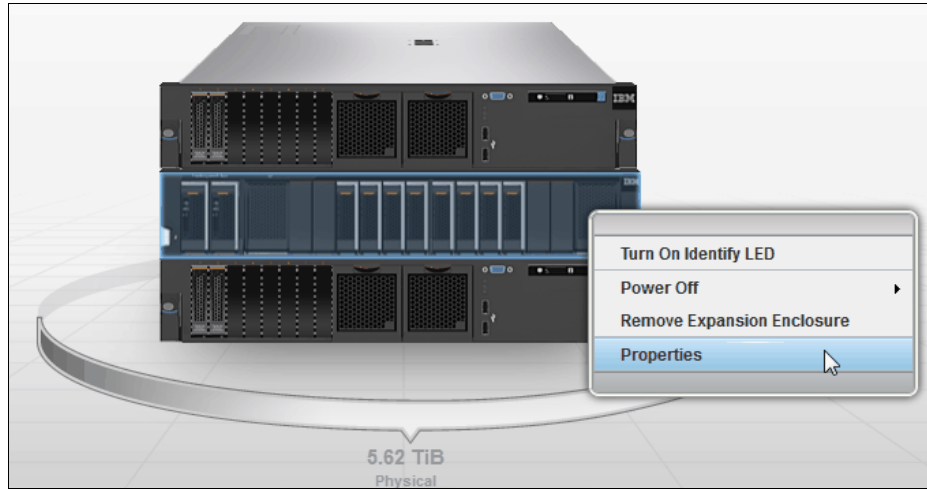

Figure 8-6 Select the storage expansion and right-click for properties
2. To view the frontside view properties for the device, point the mouse to the device, right-click, and select **Properties** (Figure 8-6).